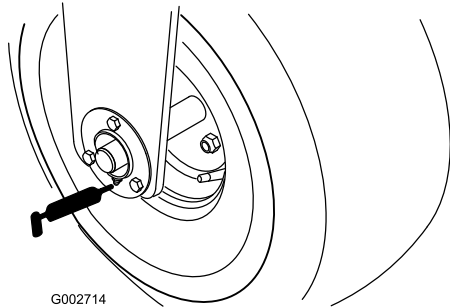

Figure 20
- Front wheel bearing (1) (Figure 20)